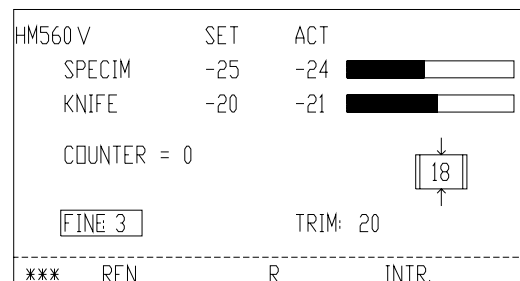

Fig. 47c
- The interrupted defrost cycle is indicated with INTR. in the status line (fig. 2.15) of the display (fig. 47c).